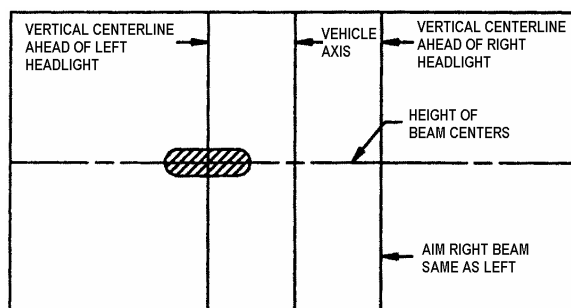

FIGURE 32: HIGH-INTENSITY ZONE (SHADED AREA) OF A PROPERLY AIMED UPPER BEAM ON THE AIMING SCREEN 7.6 M (25FT) IN FRONT OF VEHICLE 06503
5. High beam headlights are aimed so that the center of the high-intensity zone is located at the horizontal and straight ahead vertically (Fig. 32).